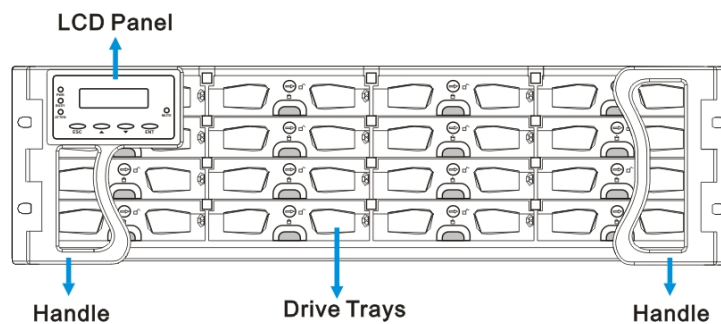
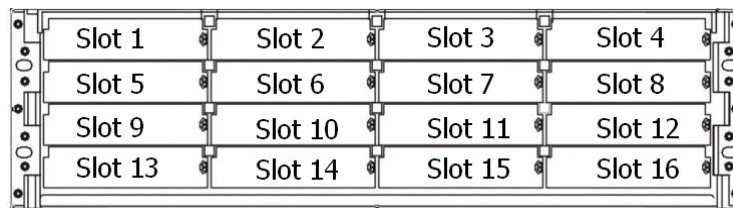

Figure 1-3: A16E-G2130-4 Front View
Figure 1-4: Hard Drive Numbering
The A16E-G2130-4 RAID storage is housed in a 3U metal chassis that is divided into front and rear sections. Key components are respectively accessed through the front (see **Figure 1-3**) and rear (see **Figure 1-4**) panels. The enclosure chassis can be mounted into a standard 19-inch rack or enclosure cabinet using support brackets that are separately-purchased.
- With handles: 483mm (W) x 131mm (H) x 504.3mm (L) (19 x 5.2 x 21 inches)
The front section of the subsystem features a 4x3 layout for twelve (12) 3.5-inch drives. The two (2) handles on the front of the subsystem enable you to easily insert/extract the chassis into/from a rack or cabinet. The front panel of the A16E-G2130-4 RAID subsystem described in this manual is shown in **Figure 1-3**. A description of each front panel component is given below:
The front panel shown in *Figure 1-3* accommodates the following components: